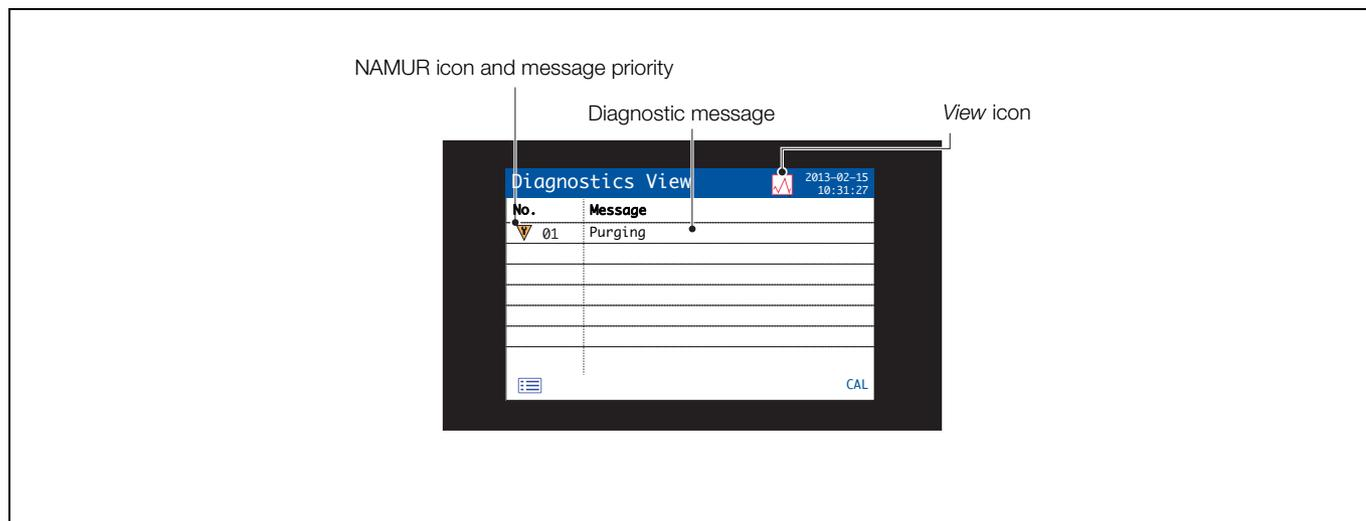

Fig. 9.6 Diagnostics view
- *Diagnostics View*: used to display a list of diagnostic messages identified by priority and message – see Fig. 9.6.